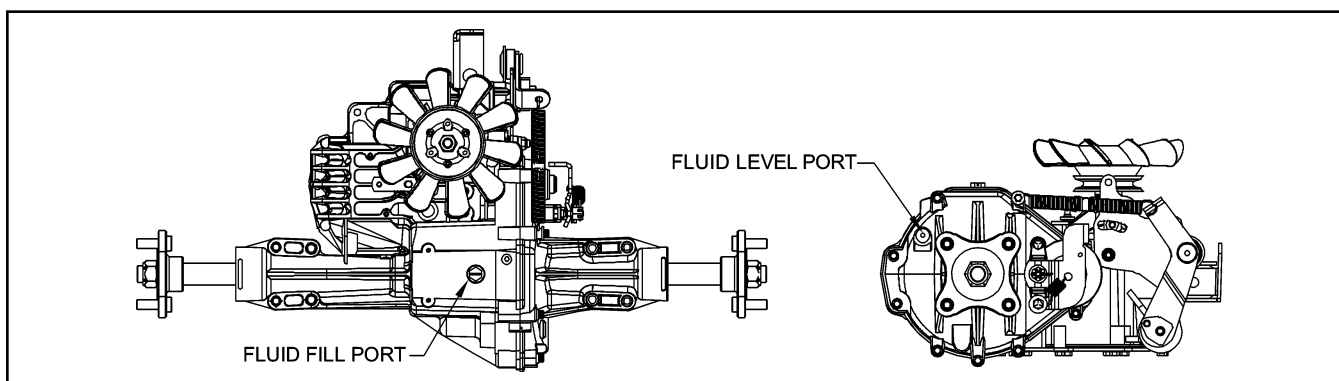

Figure 7. -1500 and -1700 Fluid Fill and Level Ports
2. Check oil level See Figure 7, Page 11.
1. With the bypass valve open and the engine running, slowly move the directional control in both forward and reverse directions 6 to 10 times, as air is purged from the unit, the oil level will drop and bubbles may appear in the oil. After stopping the engine, add oil, as necessary. Fill to the level outlined in Figure 7, Page 11.
**If you overfill the transaxle while the unit is "cold", it may overflow as it reaches normal operating temperatures. The oil level should not be above the level shown in figure 7, Page 11. This will allow the space needed for the oil to expand as it warms up.**